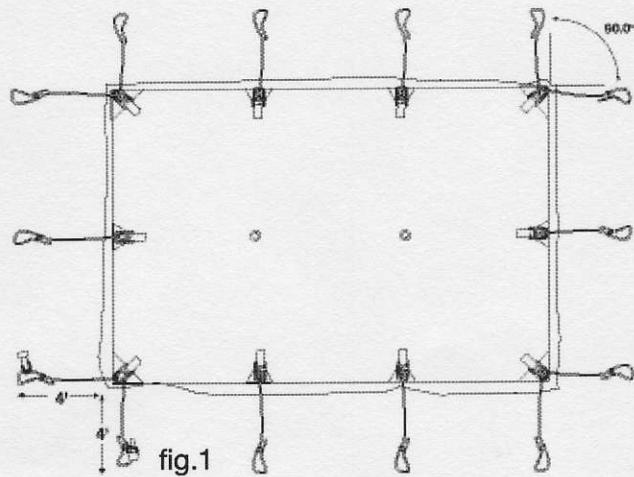

fig.1
2. Lay the canopy out, on a ground cloth, with the top side up. Stretch and square the fabric to remove slack. Pull the guy ropes out from the canopy. See fig.1.
3. Slide a stake through a ring and drive the stake 4' out and at a slight angle away from the canopy. Stake the corners first, using two stakes placed at 90° from each corner. See fig.1. Continue staking until all guy ropes are at 4'. Be sure to leave enough slack in the guy ropes to raise the poles.